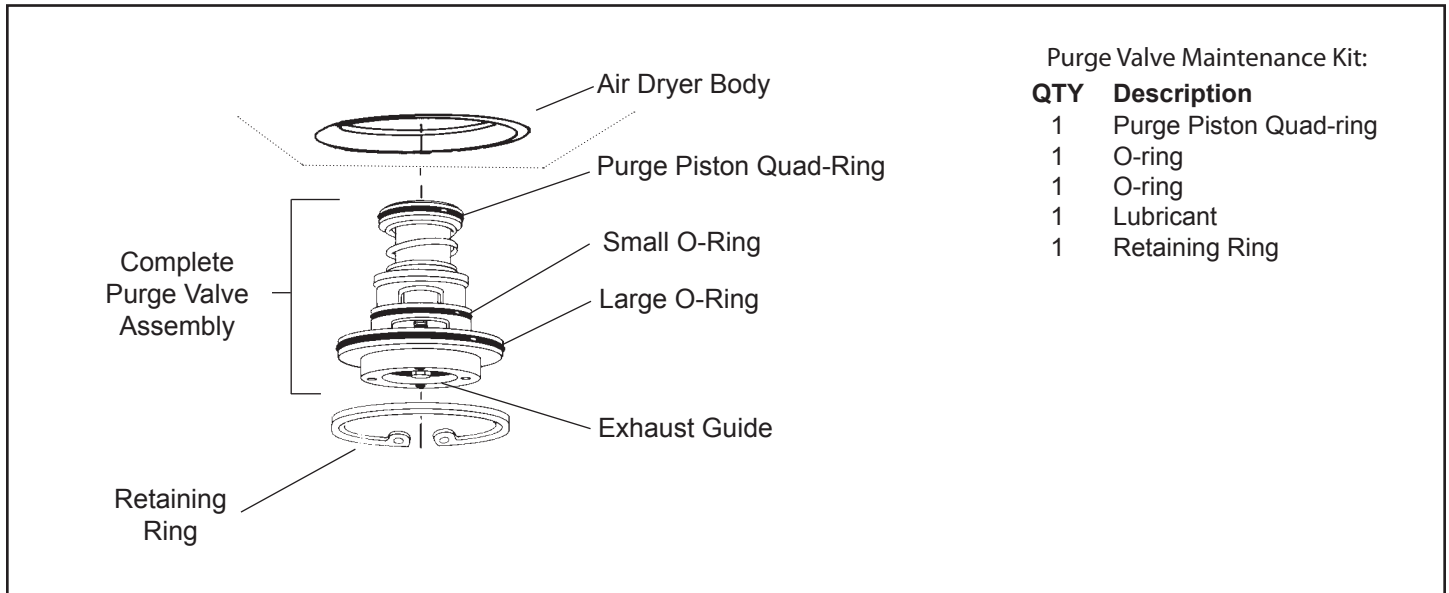

FIGURE 1 - AIR DRYER PURGE VALVE EXPLODED VIEW
2. Install the large and small o-rings on the purge valve housing placing each in its appropriate location. See Figure 1.